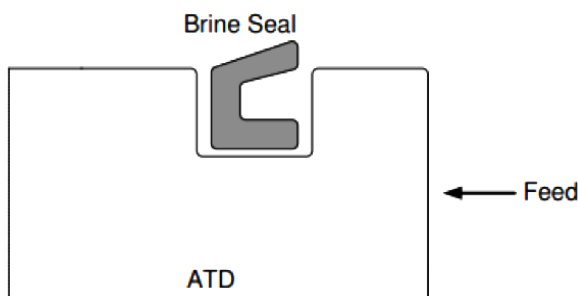

Figure 11
- Examine membrane element surfaces for any imperfection which could scratch the vessel bore. Pay particular attention to edges of anti-telescope device (ATD/brine seal carrier). This is the plastic piece on either end of the membrane. See **Figure 11**.